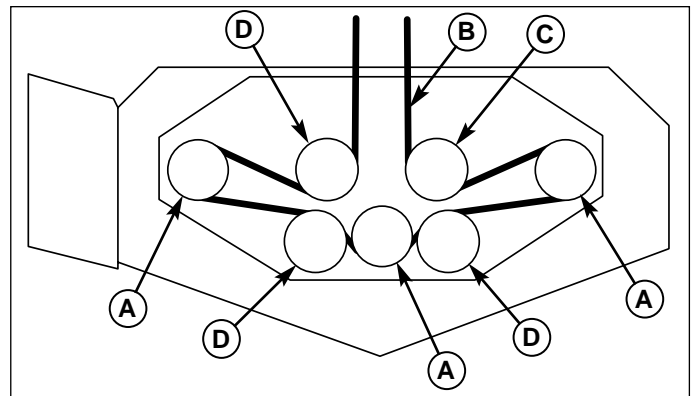

Figure 35. Mower PTO Belt Routing
6. Remove the old belt and replace with a new one. Make sure the V-side of the belt runs in the pulley grooves (Figure 35).